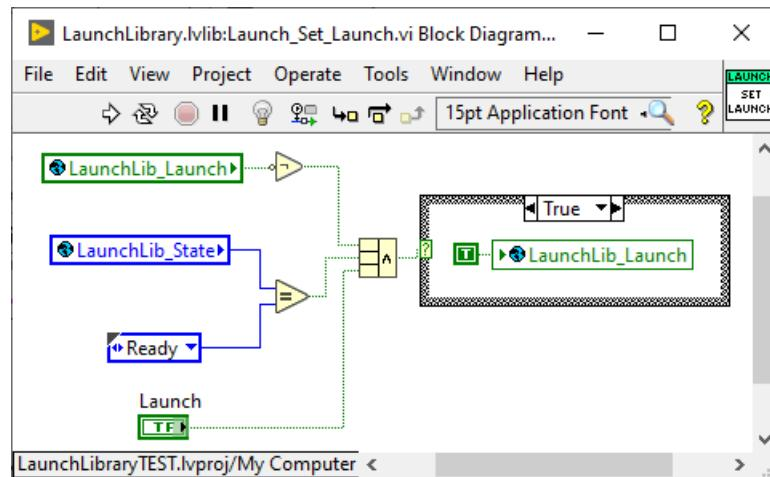

FIGURE 9.5 Sample “set” boolean command subVI showing permissive test. This subVI only sets the global variable to *true*. The False case does nothing.
- For boolean “set” subVI, consider using a technique to ensure that the state machine gets the command. To do this, the “set” routine only ever writes a *true* value to the global variable, if the permissions are satisfied and the global variable is currently *false*. If these conditions aren’t met, nothing is written. The state machine sets the global value back to *false* after seeing and processing the *true* value. For example a “Rocket_Set_Launch” subVI, only writes the “launch” boolean global variable as *true*, if the state machine was in the “ready” state, and the “launch” boolean isn’t already *true*. The “launch” global variable would be set back to *false* by the state machine when in the “Countdown” state, which it got to by seeing the “launch” global variable as *true*. Figs.9.5 and 9.6 show an example of this.